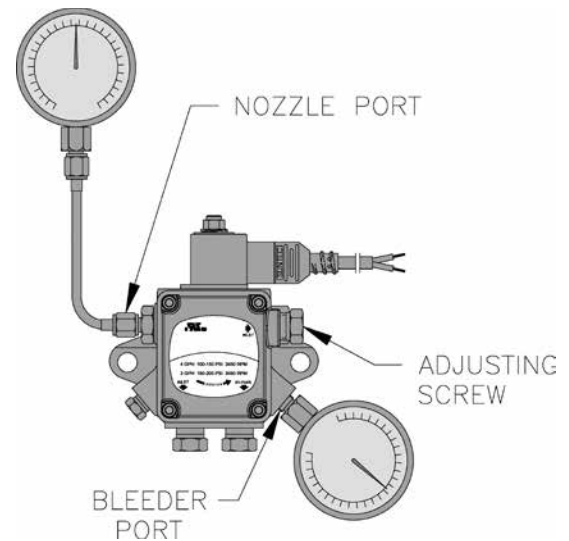

Figure 14: Adjusting Fuel Pump Pressure
- a. When checking a fuel unit's operating pressure, a reliable pressure gauge may be installed in either the bleeder port or the nozzle port. For Beckett burner refer to Figure 14.